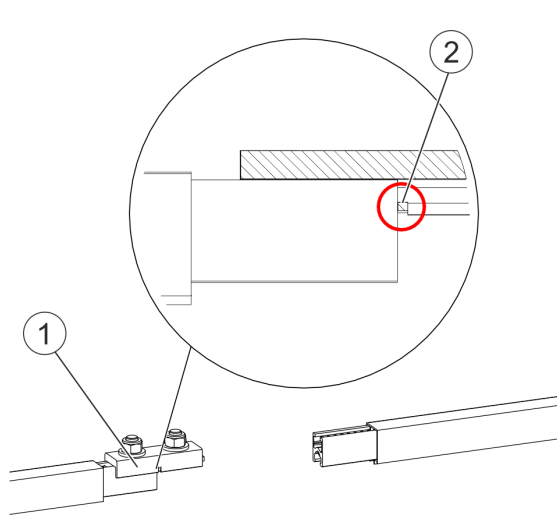
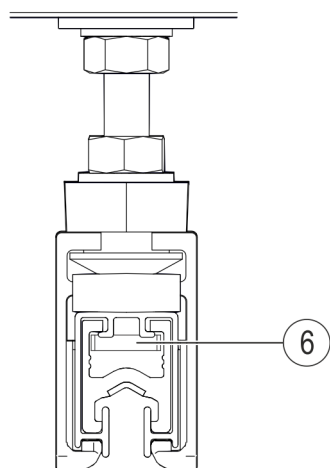

Fig. 77: Slide the connector onto the first end of the conductor bar up to the notch
Fig. 83: Clamping plate (Pos. 6) of the connector lies in the hollow profile of the rail
- Mount the connector (Pos. 1) up to the notch (Pos. 2) on the first end of the conductor bar (see Fig. 77). Depending on the function, a gap of 2 to max. 3 mm between the rail ends is necessary. The clamping plate (Pos. 6, see Fig. 83) must lie in the hollow profile of the conductor bar.